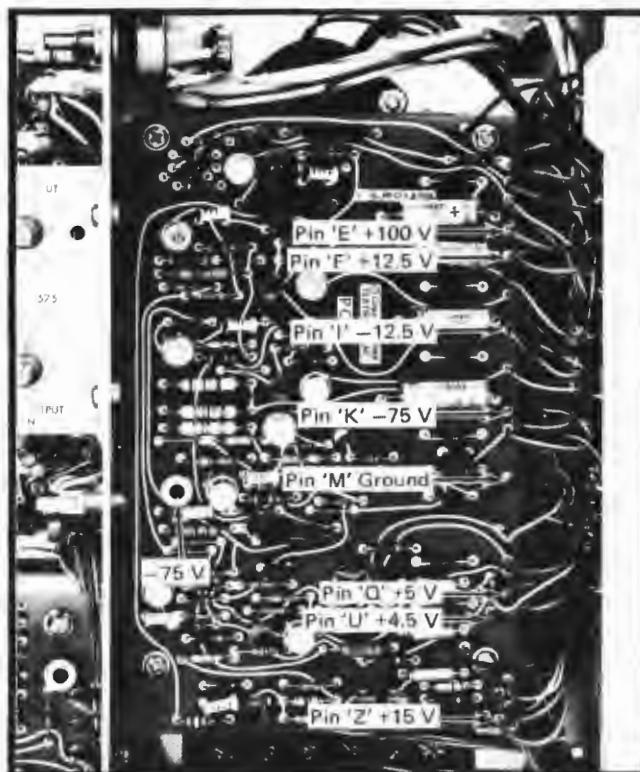

Fig. 1-1. L.V. REGULATOR circuit board: Location of test points and adjustment in steps 1 through 3.
c. Connect the negative lead of the DC voltmeter to ground, pin M on the L. V. REGULATOR board, (See Fig. 1-1). Connect the positive lead to the -75 volt supply, pin K. Be sure the polarity of the DC voltmeter is set for measuring a negative voltage.
e. ADJUST-R721, -75-V adjustment (see Fig. 1-1) if the voltage is not correct.